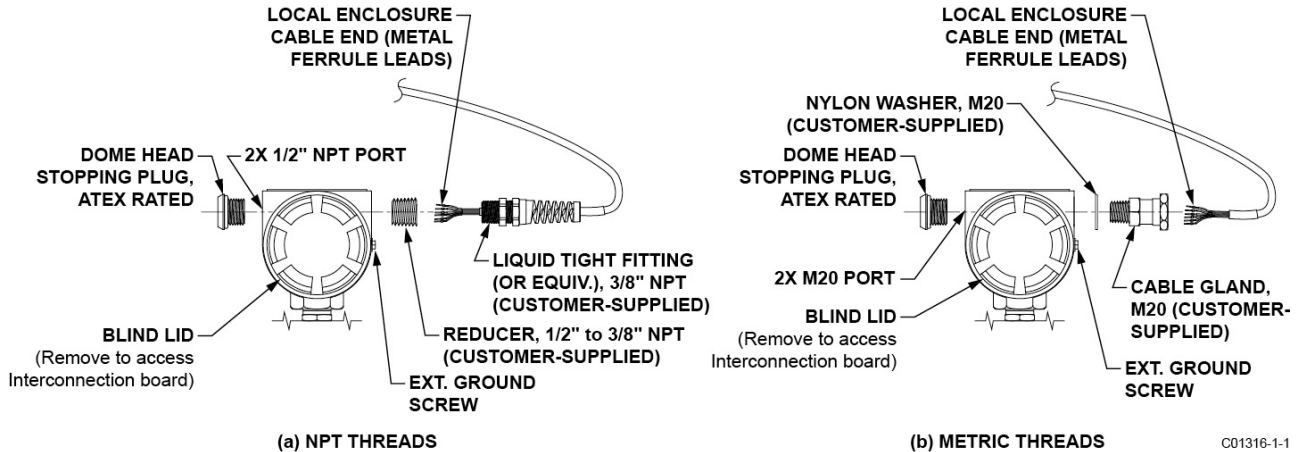
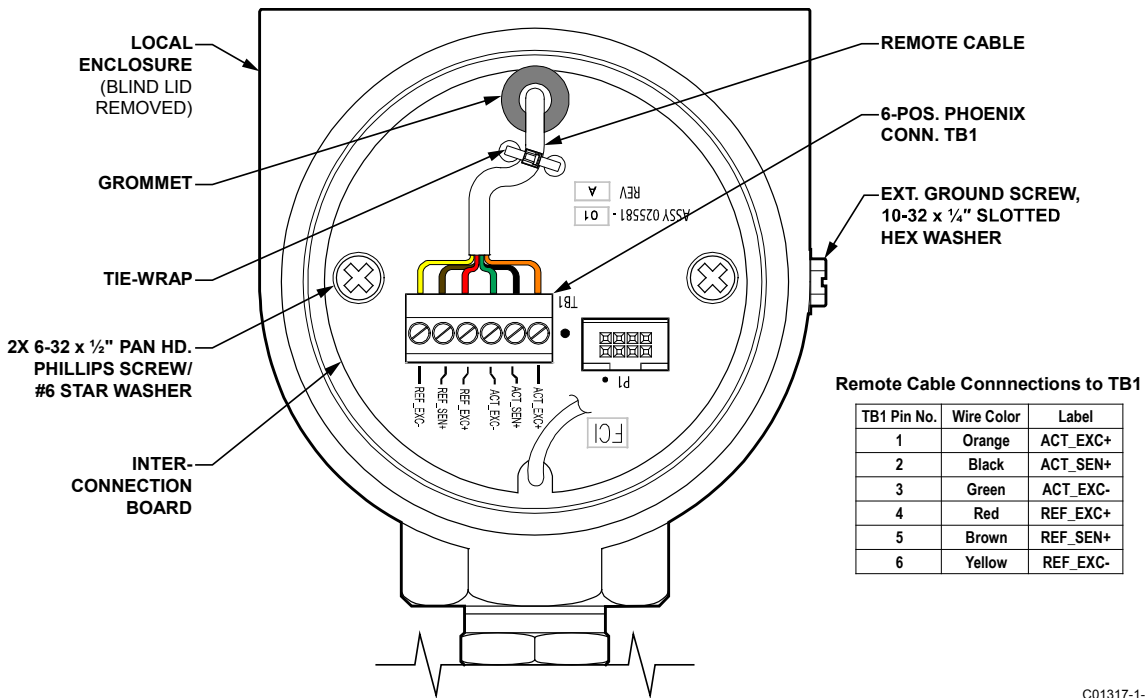

Figure 9 – Remote Cable Installation, Local Enclosure
Figure 10 – Local Enclosure Remote Cable Wiring
Figure 9 below shows the local enclosure remote cable installation.
Figure 10 below shows the remote cable wiring inside the local enclosure. After installing the local enclosure in the pipe follow the steps below to install the local enclosure cable. Refer to Figure 9 and Figure 10 when following the steps.
1. Remove local enclosure blind lid covering interconnection board (note orientation of external ground screw in Figure 10). Remove blind lid as described in Accessing the Interface Board Connection Terminals on page 16.
4. Install remote cable to local enclosure as shown in Figure 9. For NPT port units: Use an appropriate size reducer as applicable to the cable fitting used and the application. Ensure adequate cable service loop length before tightening the customer-supplied cable fitting.
6. Connect the cable leads to Phoenix connector TB1 as shown in Figure 10. After attaching all leads cinch tie-wrap to secure cable to board (snip off excess tie-wrap length).